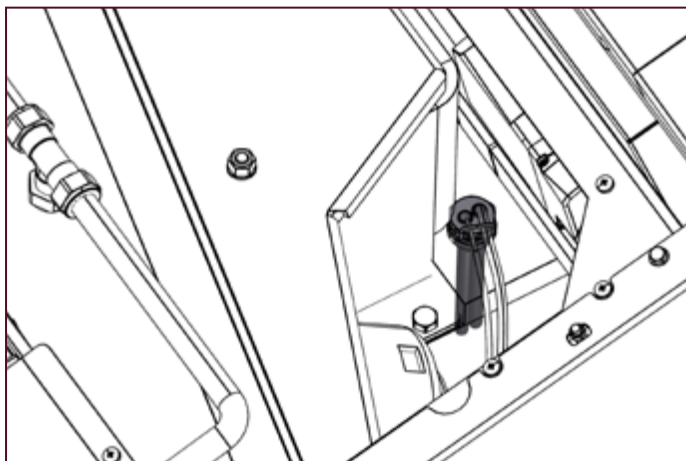

Figure 11-3: Location of boiler control thermistor sensor and overheat thermostat bulb
- The pocket, containing both the boiler control thermistor sensor and overheat thermostat bulb, is located in the upper left front of the boiler, to the left of the heat exchanger housing. Refer to Figure 11-3.